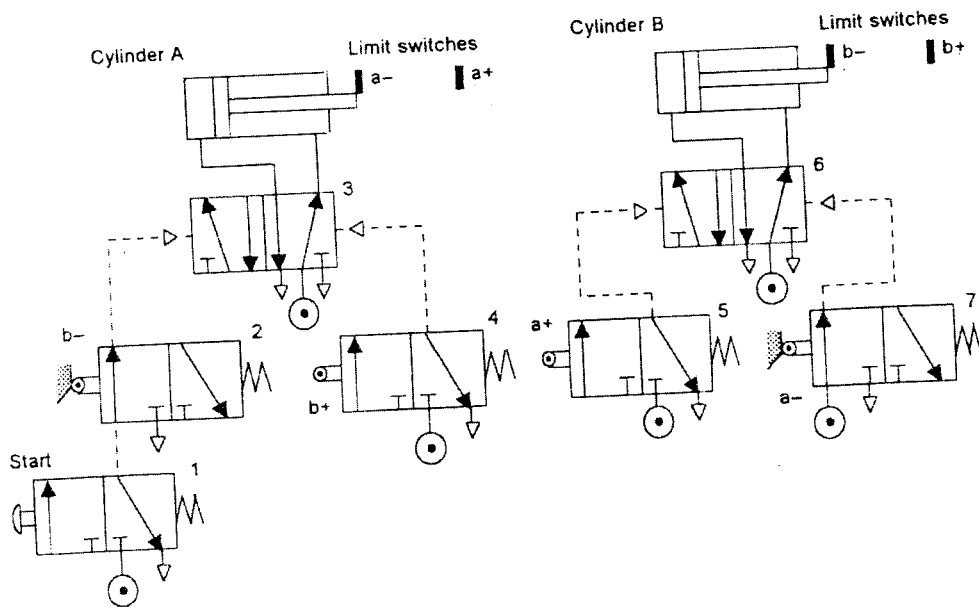

Figure S4.1
- b) Figure S4.1 shows a pneumatic sequence circuit of two double-acting cylinder. Analyze the pilot flow line system in the figure and explain the sequence of extending and retraction of the rod involve when air is supply to the system. The initial condition of all rod are in retracted position. (12 marks)